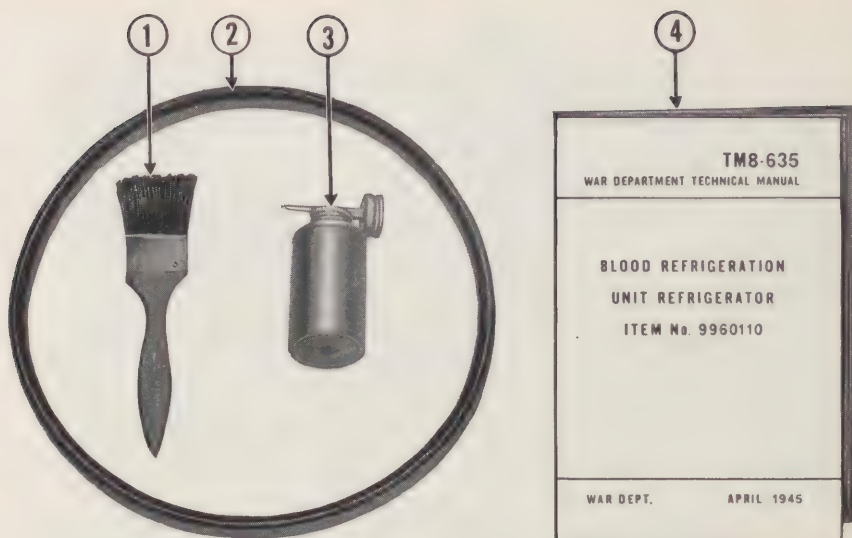

Figure 10. Manual compartment accessories.
- (3) Open storage compartment door by removing the pin from the latch and remove the packing from the 10 bottle racks.
- (4) Remove the cardboard box containing the brush, oil can and belt (fig 10). Place these articles in the manual compartment (fig 6, item 3) provided for this purpose.